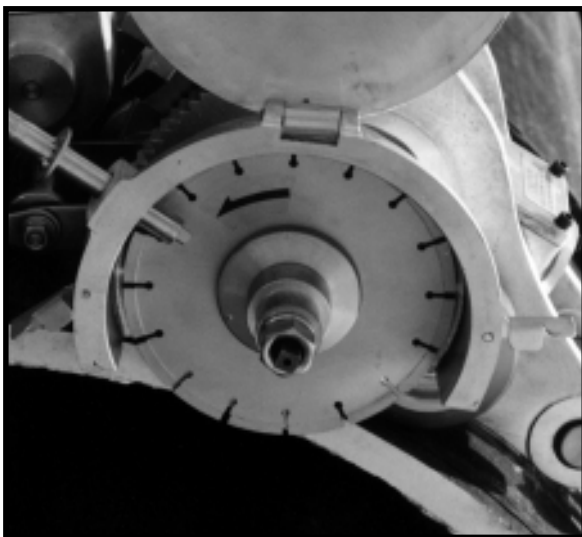

FIGURE 5
**NOTE:** Blade rotation/machine travel. Blade rotates counter-clockwise when facing the cutter side of the machine. Machine travels clockwise when facing the cutter side of the machine. (Figure 5)
8. Proceed to install blade on machine once it has been mounted. Flip cutter guard up and remove nut, lock washer and Outside Collar. Install cutter with arrow pointing in the proper direction (Figure 5).